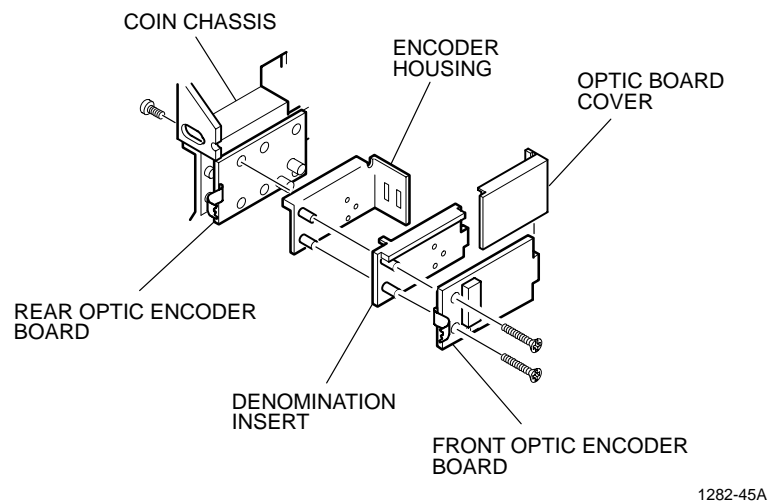

Figure 5-6. Optic Coin Encoder.
See Figure 5-6 and proceed as follows.
See Figure 5-6, Optic Coin Encoder.
The components that make up the optic coin encoder include the front and rear optic encoder boards, the denomination insert and the encoder housing. See Figure 5-6 and proceed as follows.
2. Remove the screws that fasten the encoder housing and encoder board to the comparator channel, and remove these components (see Figure 5-6).